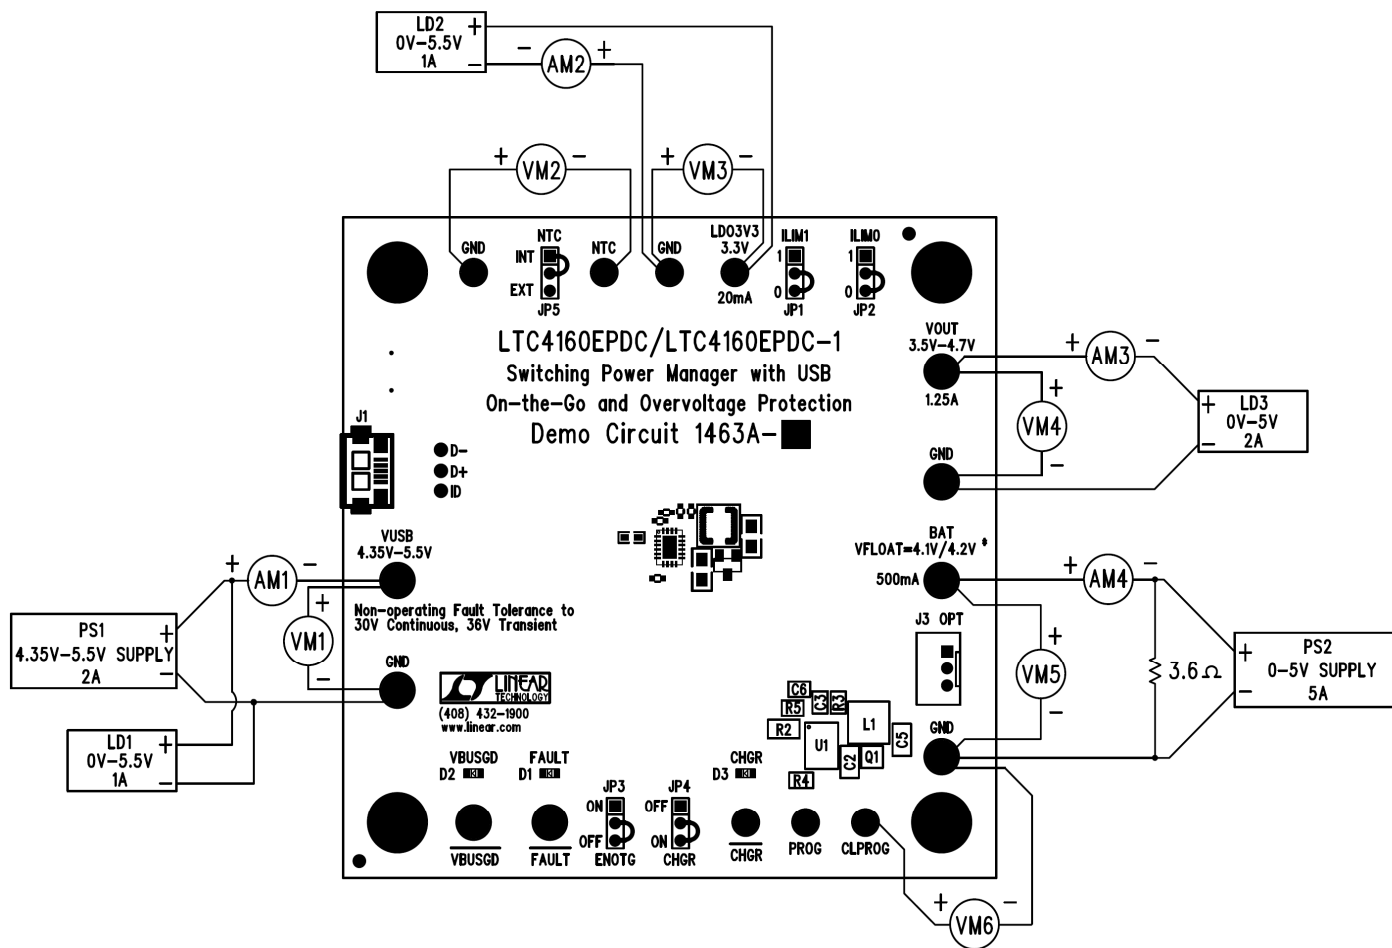

Figure 1. Proper Measurement Equipment Setup for DC1463A
Refer to Figure 1 for the proper measurement equipment setup and jumper settings and follow the procedure below.
1. Set all jumpers as shown in Figure 1 and LD1 = 0A, PS1 = 5V, LD2 = 0A, LD3 = 0A, PS2 = 3.6V. Observe VOUT (VM4), LDO3V3 (VM3), and V(NTC) (VM2). The LTC4160 is operating as USB power manager. The current from PS1 will try to be the charging current * (3.6V/5V), or approximately 400mA, but will be limited by the input current limiter to ~ 100mA.